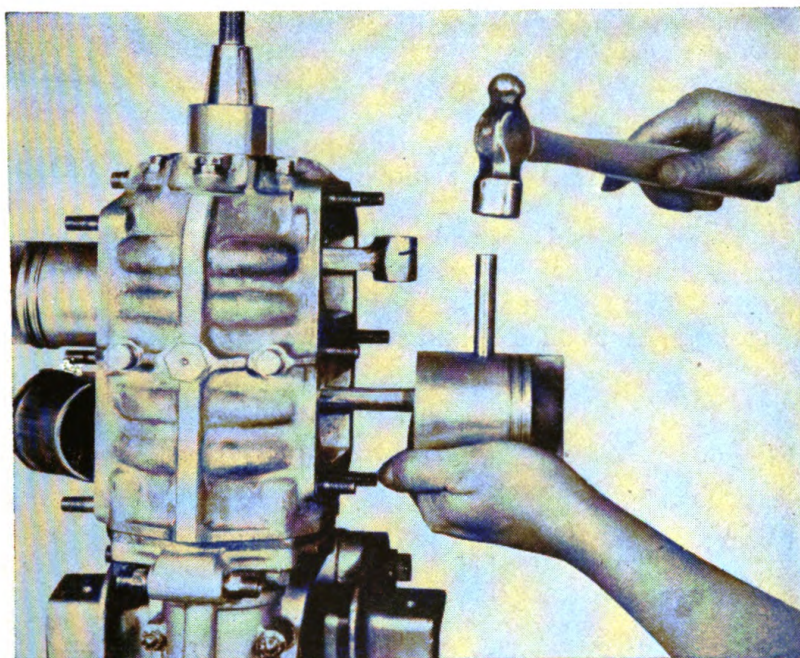

Figure 57. To remove piston pin, tap out pin with a piston-pin punch.
(15) Remove pistons, marking them as follows: 1, upper left; 2, upper right; 3, lower left; 4, lower right.
(16) With a long-nosed pliers remove spring-lock rings in piston-pin hole.
(17) While supporting piston in one hand, tap out piston pin with a piston-pin punch. (See fig. 57.)